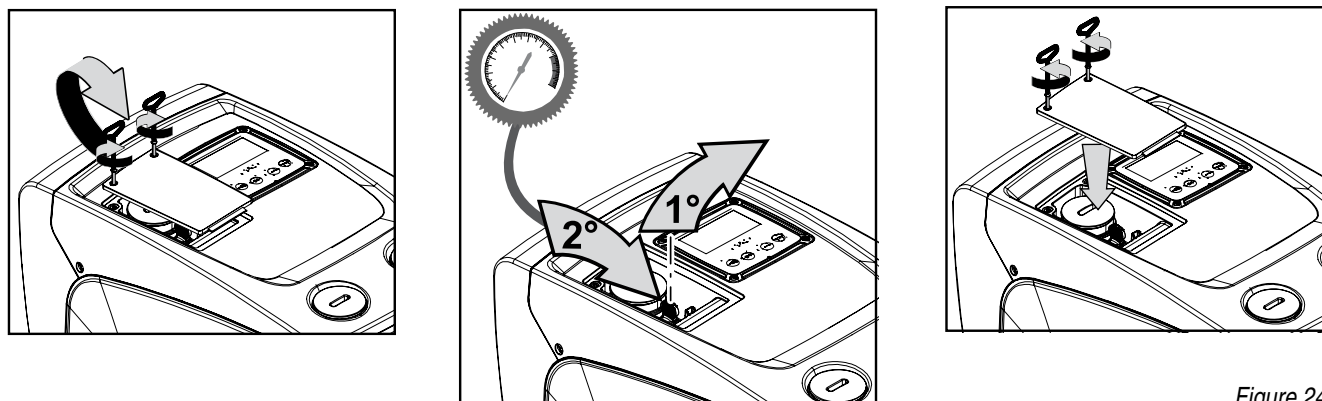

Figure 24
1. remove the access door to the special maintenance compartment (*Fig.1 Face F*) disengaging the 2 fixing screws with the accessory tool. It is advisable not to remove the screws completely, so that you can use them to extract the door. Take care not to drop the screws inside the system once you have removed the door (*Fig. 24*);
2. slip the rubber cap off the valve of the expansion vessel (*Fig. 24*);
3. regulate the valve as indicated in paragraph 1.2 (*Fig. 24*);
4. reposition the rubber cap (*Fig. 24*);
5. reposition the door and tighten the 2 screws (*Fig. 24*).